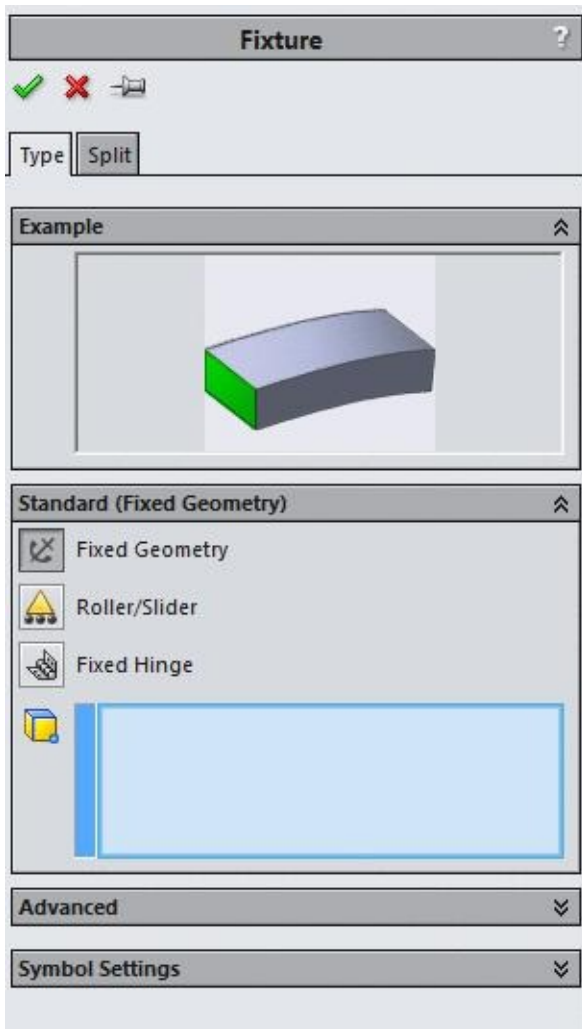

Figure-2. Fixture PropertyManager
- Click on the **Fixed Geometry** button from the list. The **Fixture PropertyManager** will be displayed; refer to Figure-2.